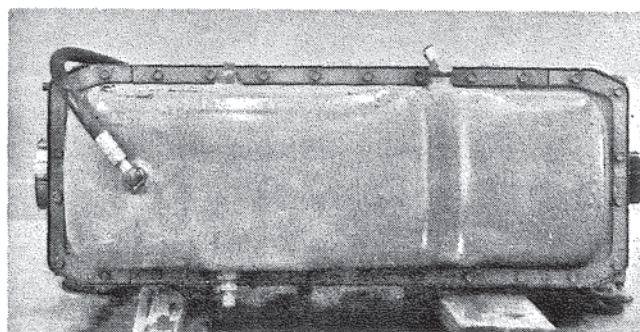

Figure 14. Remove Oil Pan.
24. Remove oil pan. Figure 14.